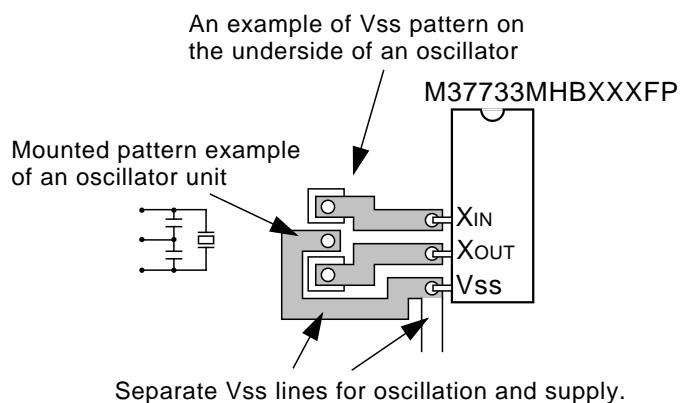

Fig. 21 Vss pattern underneath mounted oscillator
(2) Wiring for clock I/O pins
- Separate the Vss pattern only for oscillation from all other Vss patterns. (Refer to **Figure 21.**)